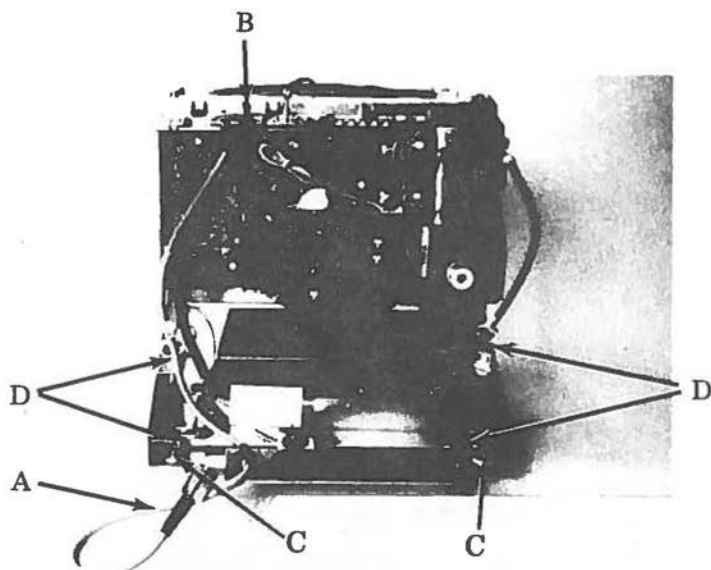

Figure 6-15 Power Supply Removal
2. Disconnect the CRT cable (A) from the back of the card rack assembly, see Figure 6-15)